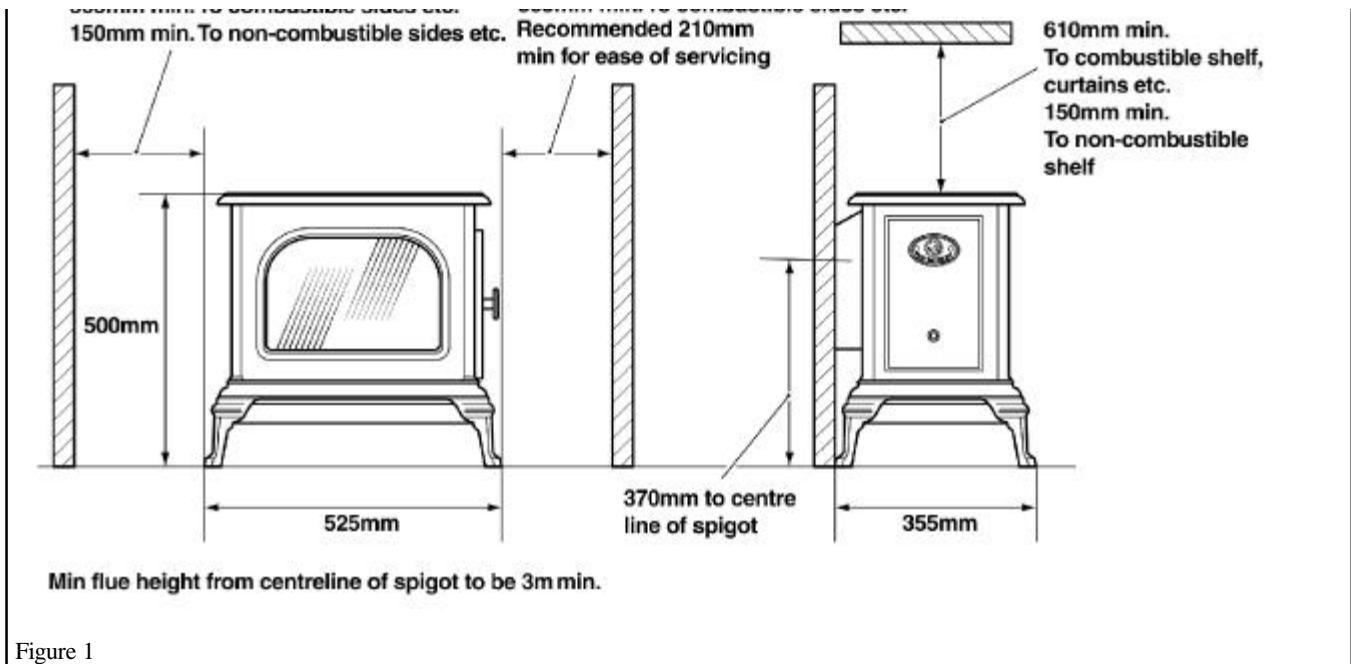
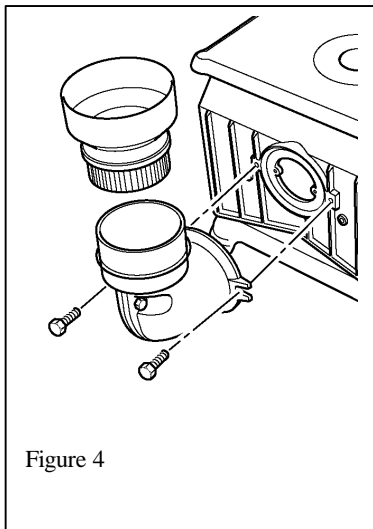

Figure 1
Figure 4
The stove dimensions are shown in figure 1
**Clearances** from combustible and non-combustible materials must be at least those shown in figure 1
4. Place the stove in position on the hearth ensuring that the minimum dimensions specified in figure 1 are adhered to. Position the stove so that the spigot passes through the hole in the closure plate and the decorative plate is flat against the rear surface of the fireplace. Each of the stove feet has height adjustment screws to accommodate uneven surfaces. Ensure that the stove is level.
1. Connect the cast iron elbow using the two screws located to the side of the flue outlet (see Figure 4)
3. Place the stove in position on the hearth ensuring that the minimum dimensions specified in figure 1 are adhered to. Connect the flue pipe to the outlet and seal in place. The optional flue adapter is shown in figure 4.